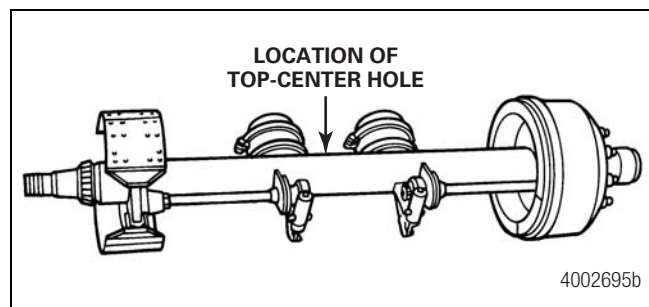

Figure 6.2
1. Most Meritor trailer axles are built with a 0.31-inch (7.874 mm) diameter hole partially drilled through the axle tube. This hole identifies the top of the axle. Figure 6.2.